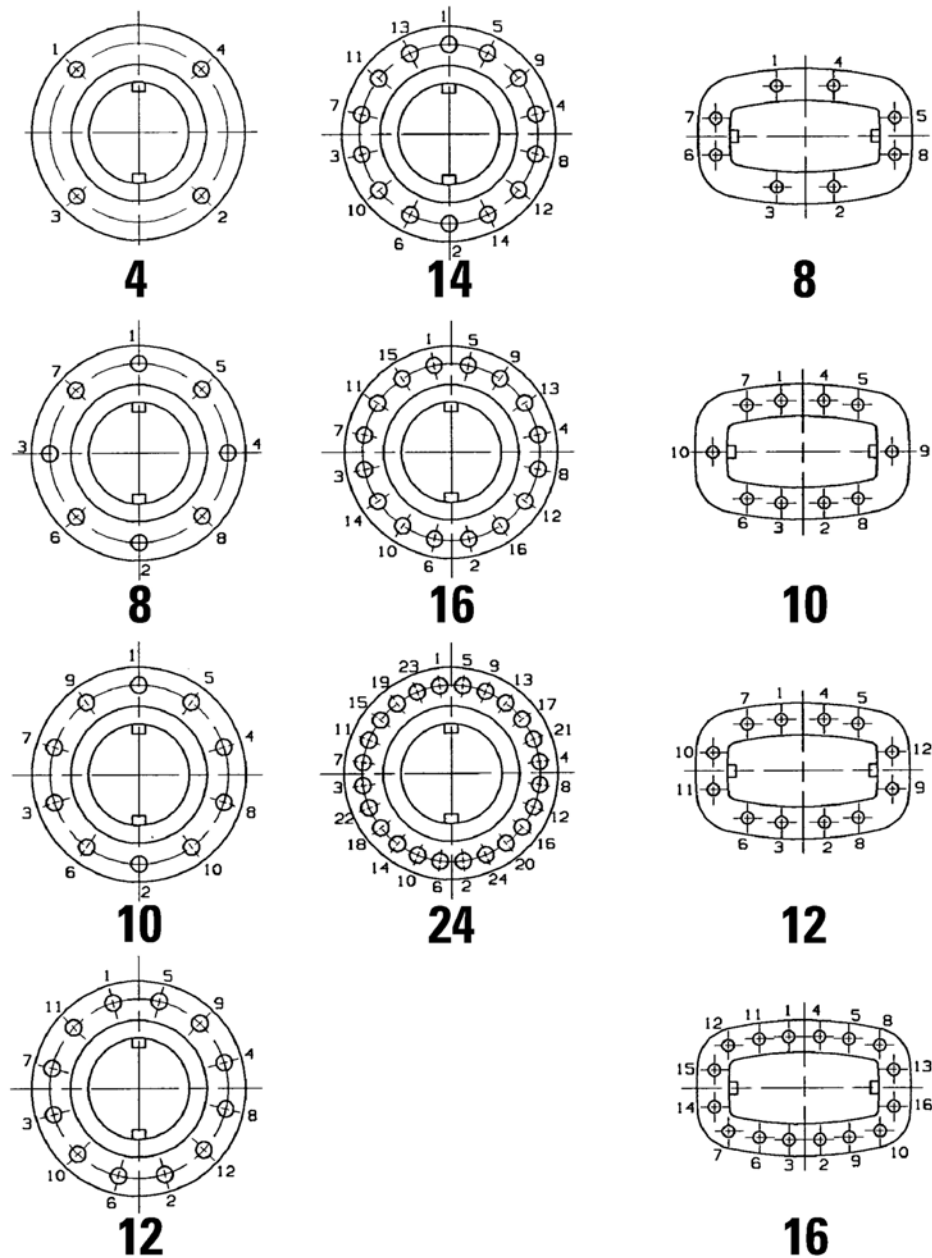

Figure 5
6. Reinstall the body/bonnet bolts and nuts and then follow the bolt torque sequence outlined in Figure 5 and Table 7.
Make sure all contact surfaces are clean and dry. The torques listed below assume clean, undamaged, and well lubricated fasteners. Tightening is recommended in two steps. First tighten to approximately 1/2 the listed torque value, and then tighten the bolts to their final torque value. Use the bolt tightening sequences shown in Figure 5.